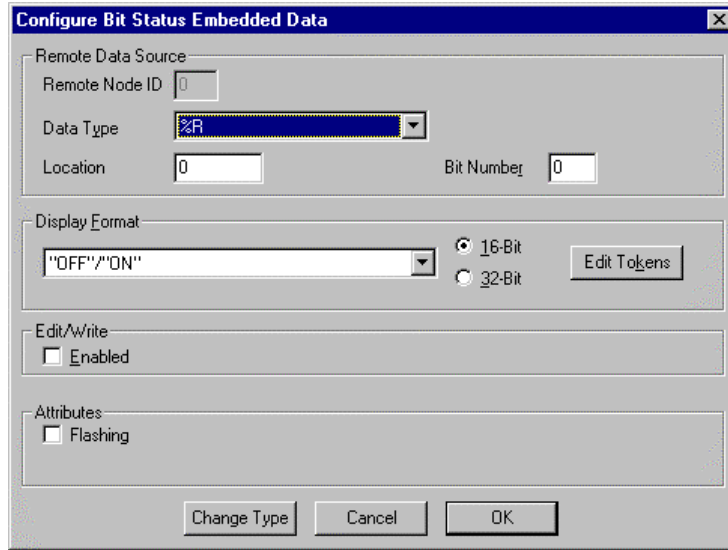

Figure 7.8 – Configure Embedded Data Box
3. On the third line, type "Q1:". Click on the Embed Icon. Select **Bit Status** from **Type**; discrete output (in this example %Q) from **Data Type**; **Location 1**; leave **Token Pair** as "**OFF**"/"**ON**" and click **Edit Enable**. Click **OK**. See Figure 7.8.
On the HE500TIU050/10X/11X/20X, press the DOWN key to get to the Discrete Output page (as in Figure 7.8). Press the PAUSE key the toggle Q0: ON by pressing the UP key and ENTER key. Press the PAUSE key until nothing is highlighted (three times).